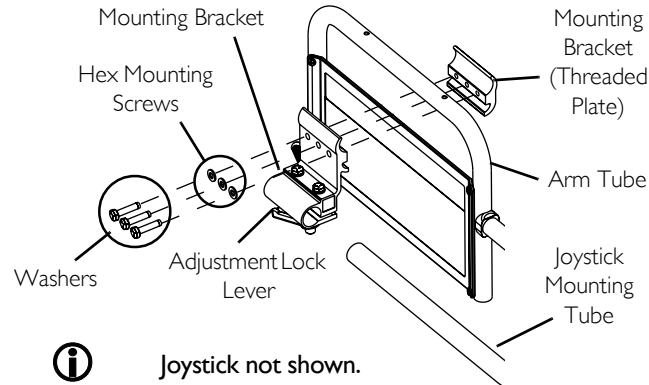

FIGURE 6 Repositioning Joystick
4. Reposition mounting bracket on opposite arm tube ensuring the threaded plate of the mounting bracket is on the inside of the arm tube as shown in FIGURE 6.